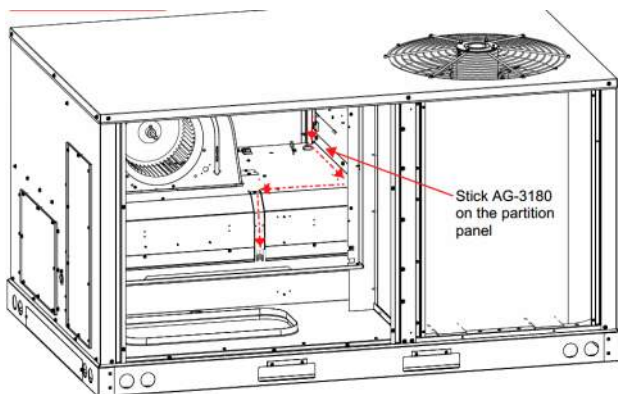

FIGURE 7B
- Once the bracket-micro sensor assembly is mounted, route wires as shown in Figure 7B. Bundle and zip tie any excess wire, and use the supplied cord clip (PSA backing) to secure the wire to the blower deck and/or partition panel.